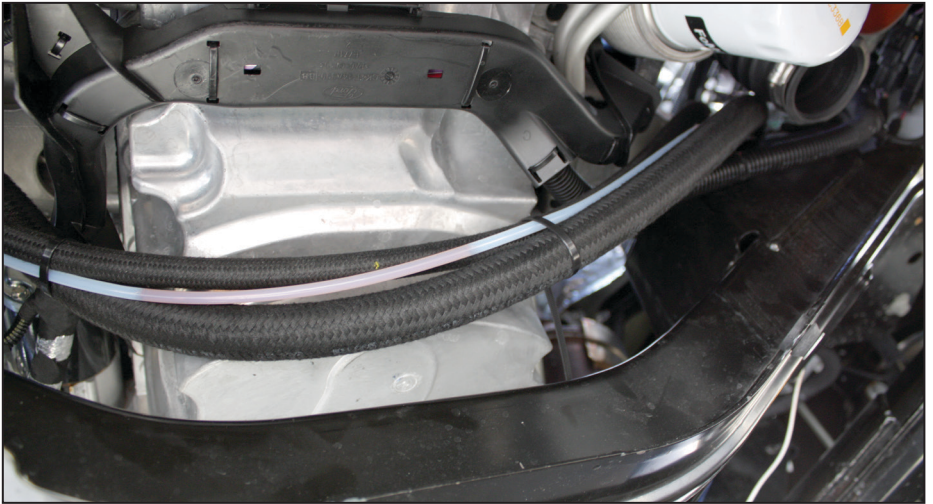

Figure 40 — Route hoses under the oil pan
- Route the 3/8 in and 3/4 in hoses, together with the 1/4 in PTFE tube under the engine oil pan and over the front subframe crossmember, towards the driver side of the vehicle (Figure 40).